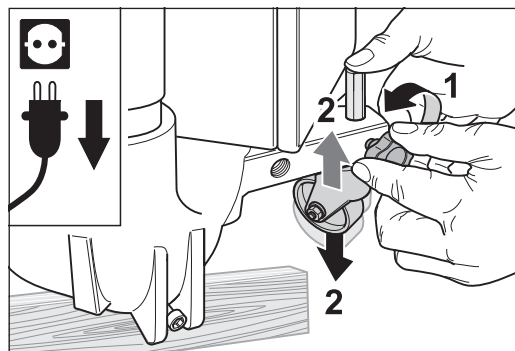

Fig. 27 Undo the star grip screw carefully (1) and then adjust the guide roller (2).
- 3 Undo the star grip screw on the guide roller arm of the fan housing carefully (fig. 27, 1).
- 4 Lift up the machine by grabbing it by the guide roller arm and, at the same time, use your thumb to press down on the upper end of the guide roller shaft. Adjust the guide roller with respect to the guide roller arm to the desired position (fig. 27, 2) and tighten the star grip screw firmly. Put the UNICO down again.